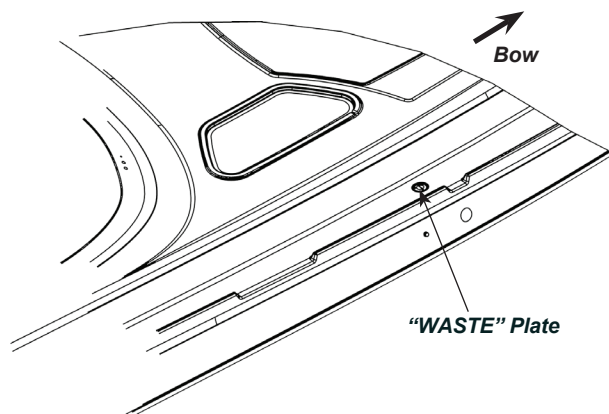

Figure J23: Waste Pumpout Fitting Location
2. Connect the dockside pump out connection to the WASTE plate located on the deck. See Figure J23.